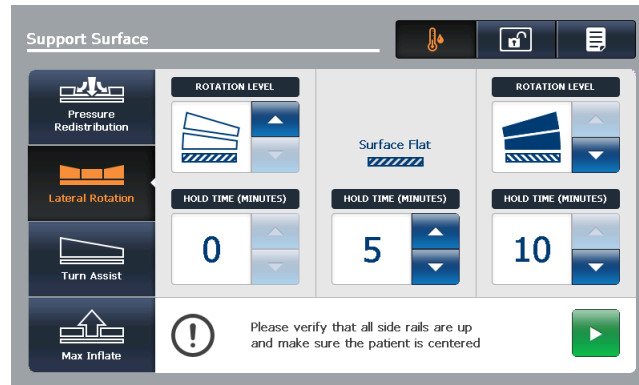

Figure 56: Starting a one-sided Lateral Rotation
2. Tap **Up** on the opposite side to the desired angle (Figure 56 on page 68).
3. Set the desired hold time (Figure 56 on page 68).